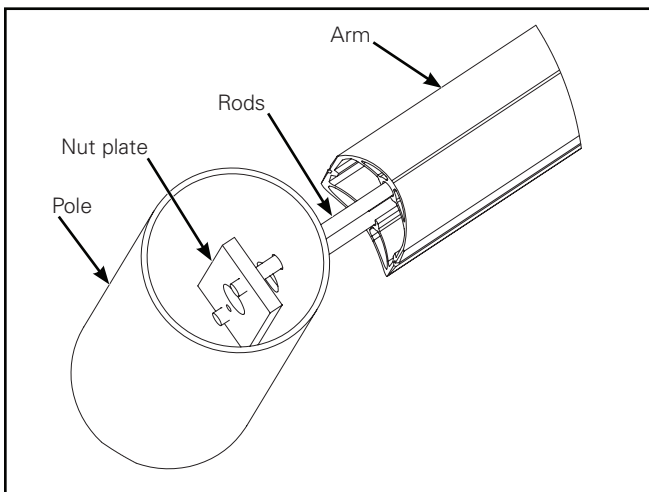

Figure 2.
2. Slide nut plate into pole. Install threaded rods through holes in the pole and into the nut plate. Slide the arm over the threaded rods. (Figure 2.)